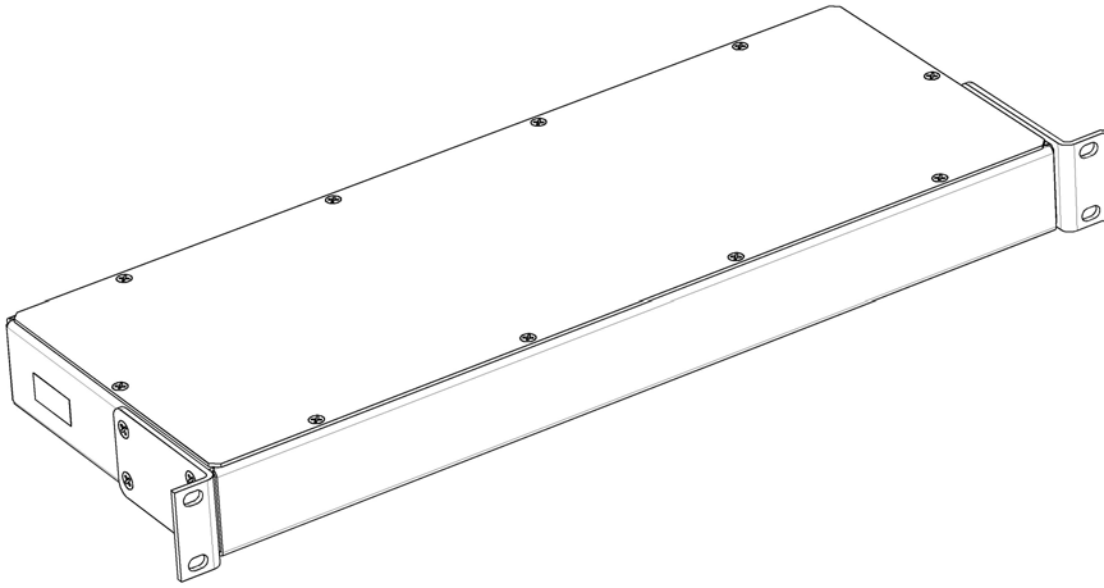
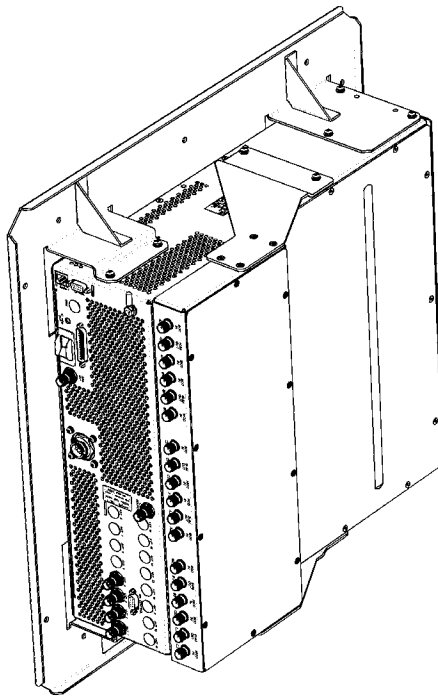
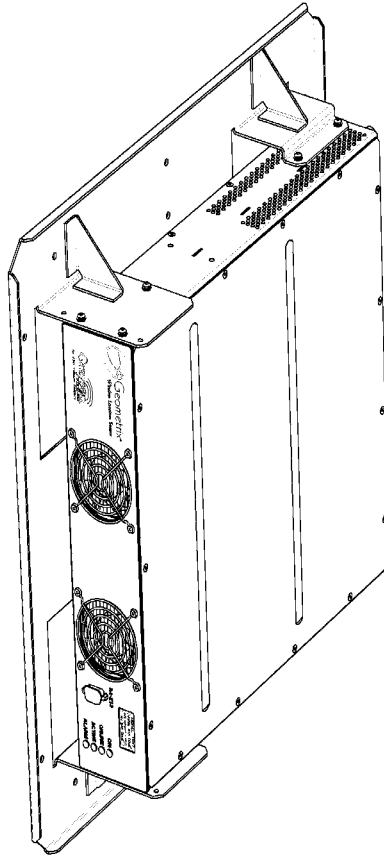

Figure 1-10 Dual-Band RF Combiner – Front View, Rack Mount
Figure 1-11 Dual-Band RF Combiner - Wall Mount with WLS
Figure 2-3 Wall Mount Bracket Configuration
The dual-band combiner may be installed as a 1U rack-mount unit as shown in Figure 1-10, or may be “piggy backed” on the WLS for wall mount installations using available brackets as shown in Figure 1-11.
2. Mount the WLS chassis in the bracket using supplied #20 Torx screws (or Phillips Screws depending on hardware provided). Figure 2-3 shows the mounting bracket configurations for wall mount. Refer to Figure 1-11 for wall mounting the WLS with a Dual-Band RF Combiner.